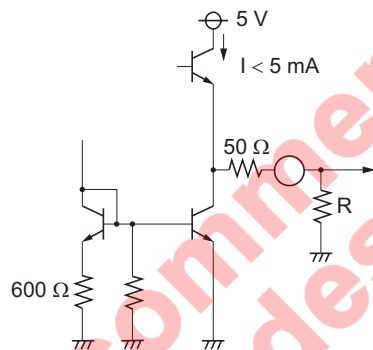

Figure 1
- The terminal of R, G, B output pin are shown as figure 1.